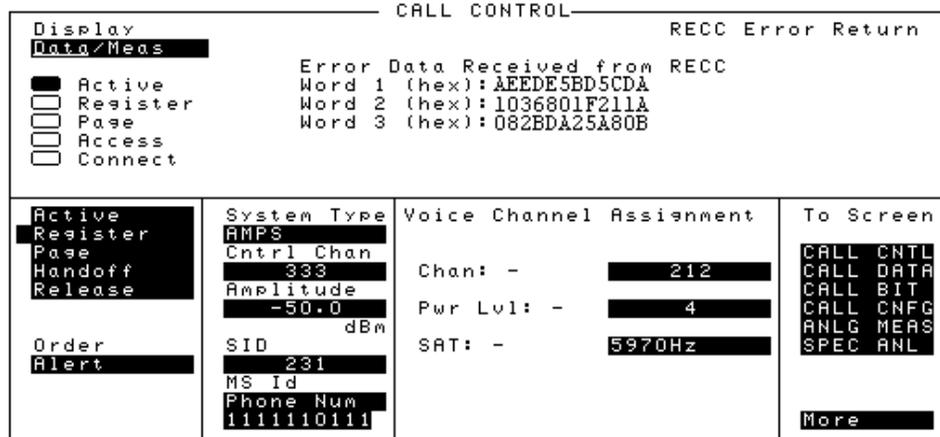

Figure 3 CALL CONTROL Screen with Decoding Error Message Display
**Figure 3 on page 281** shows layout of the CALL CONTROL screen when a decoding error has occurred. The raw data bits can be read by the control program.